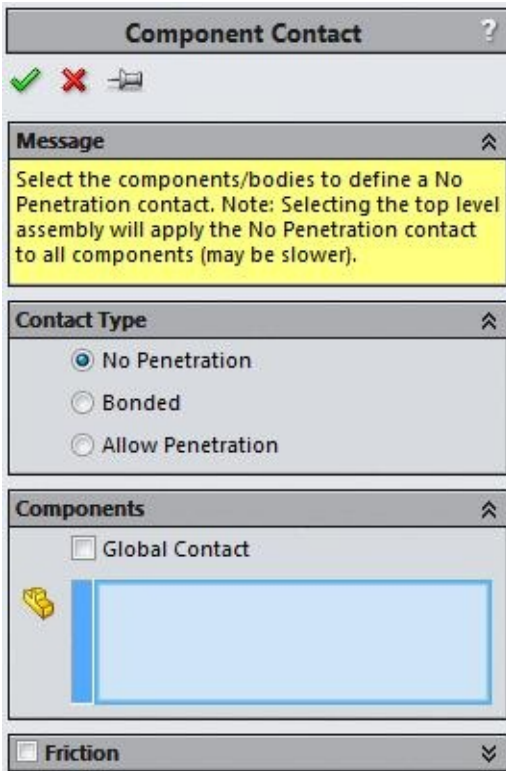

Figure-68. Component Contact PropertyManager
- Click on the **Component Contact** button from the **Connections Advisor** drop-down. The **PropertyManager** will display as shown in Figure-68.